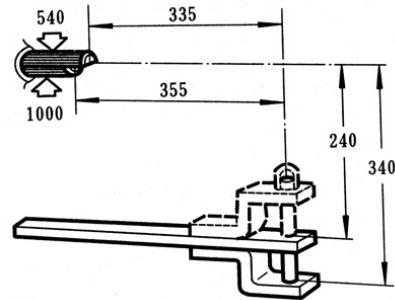

Fig. 4-40 Swing draft lever
- (1) Turning the draft lever can change height of the towing point to make towing height satisfy farm implement. (Fig.4-40)